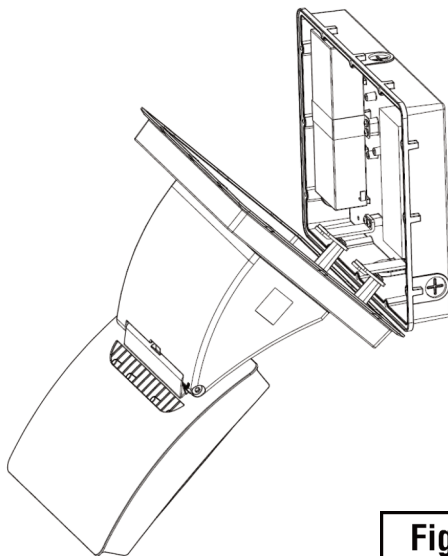

Fig. 3
5. Hook the fixture and EM extension cover onto the EM extension box. Allow the fixture to hang by the brackets to facilitate the wiring process (**Figure 3**).